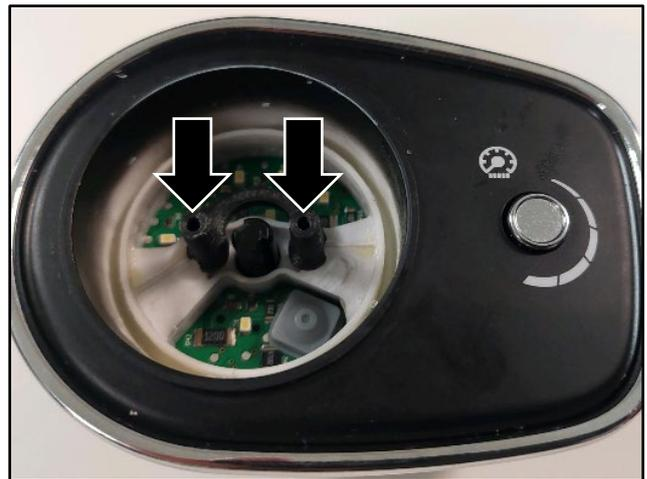
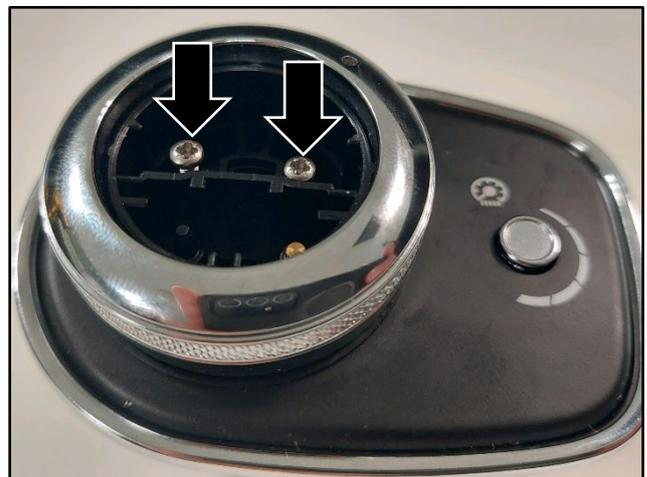

Figure 8
Figure 9
6. Install the new horseshoe bracket behind the toggle switch in the orientation shown (refer to Figure 8) and then install the two 19mm screws to attach the horseshoe bracket to the toggle switch (refer to Figure 9).